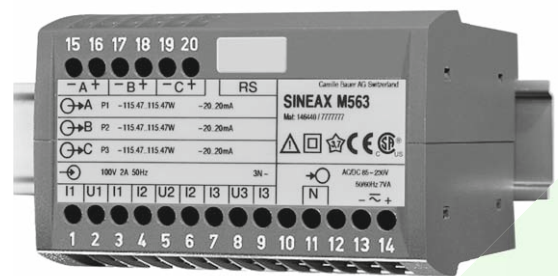

Fig. 1. SINEAX M 563 transducer in housing P201/105 clipped onto a top-hat rail.
**SINEAX M 561/M 562/M 563** (Fig.1) is a programmable transducer with a **RS 232 C** interface. M 561 supervises 1 variable (input) which is available on an analog output signal. Input and output are electrically isolated. M 562 resp. M 563 measure 2 resp. 3 variables simultaneously and generate **2** resp. **3** electrically isolated analog output signals.